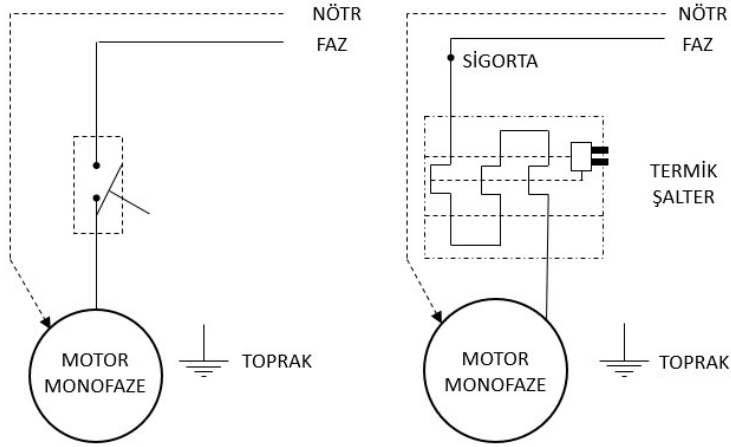

Figure 5
- Follow the rules on electric installation diagram. See Figure 5